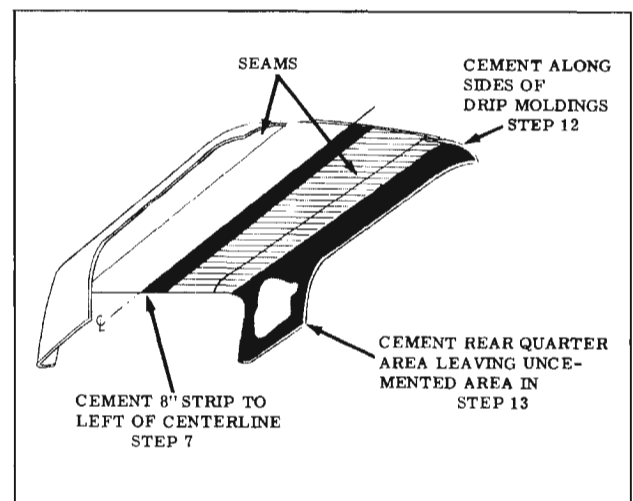

Fig. 16-331 Cementing Fabric Cover
7. Apply approximately an 8" wide strip of nitrile non-staining vinyl trim adhesive such as 3M Vinyl Trim Adhesive or Permalastic Vinyl Trim Adhesive or equivalent along exposed inner layer of fabric cover adjacent to centerline. (Fig. 16-331).
inner layer of fabric cover to extend approximately 1" beyond dielectric seam. Apply cement to corresponding area of body (Fig. 16-331).
12. Fold over fabric cover and apply cement to remaining portion of fabric cover and roof panel and drip molding. Cement cover to roof panel and drip molding. (Fig. 16-331)
13. Cement perimeter of fabric cover in rear quarter area. Be certain fabric cover is cemented at emblem or plate assembly attaching locations. This type of cement application will permit easier fitting of cover in rear quarter area. (Fig. 16-331)